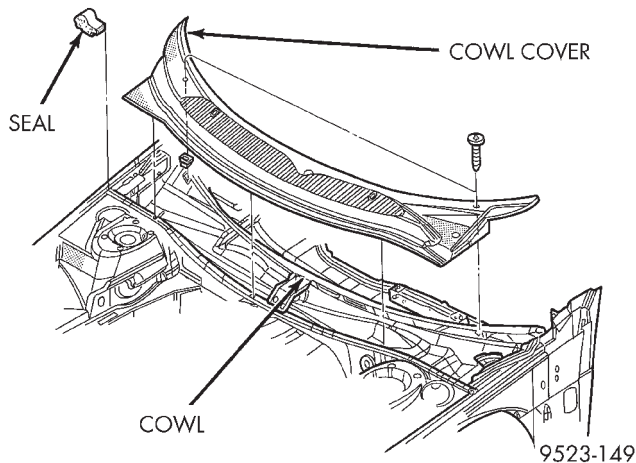

Fig. 6 Cowl Cover
- (1) Release hood latch and open hood.
- (2) Remove windshield wiper arms, refer to Group 8K, Windshield Wipers and Washers.
- (3) Remove screws holding cowl cover to cowl (Fig. 6).
- (4) Separate cowl cover from vehicle.